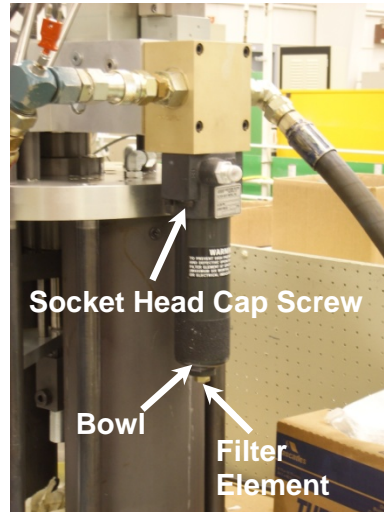

Figure 3-4. Filter Assembly
5. Loosen the $\frac{3}{4}$ inch jam nut on top of the solenoid coil (see Figures 3-4 and 3-5).
6. Loosen the coil retention nut (see Figures 3-4 and 3-5).